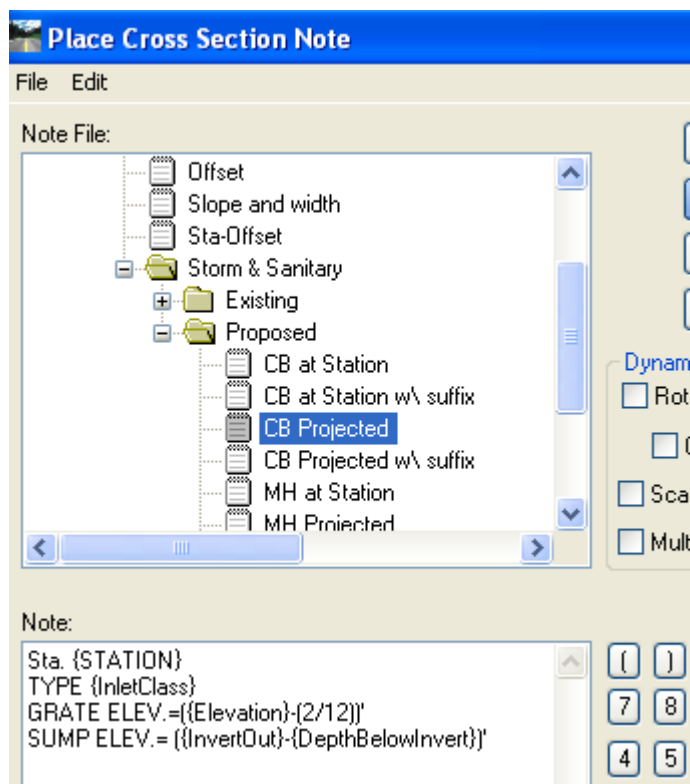

Figure 15-7 InRoads Place Cross Section Note Dialog Box
- D. In the Note File Area Select **Section > Storm & Sanitary > Proposed**. Click on the note **CB Projected**. Notice under note the grate elevation is the surface Elevation – 2". This will need to be adjusted for the different types of curbing (see figure 15-7). Select **Apply**, follow the prompts and select the catch basin at 24+00.